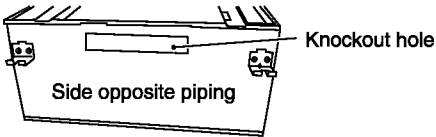

Fig.1
- (1) Cut the knockout hole (45 × 240) on the side opposite to the piping with nippers.
- (2) Cut out and remove the thermal insulation on the inside around the knockout hole (see Fig.1). Ensure that the drain pan is not damaged while cutting